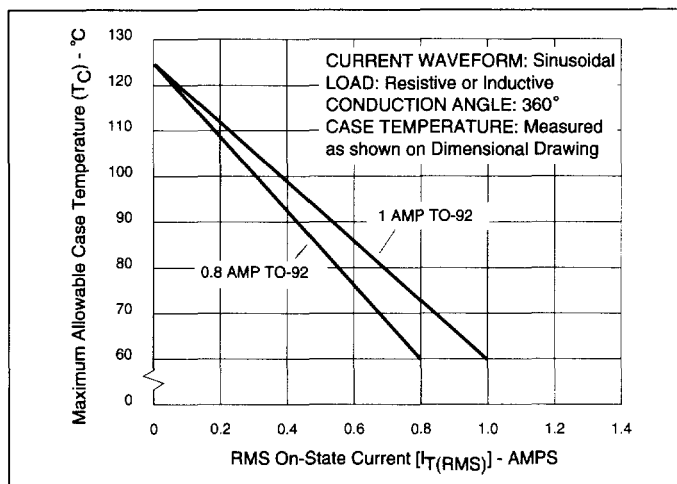
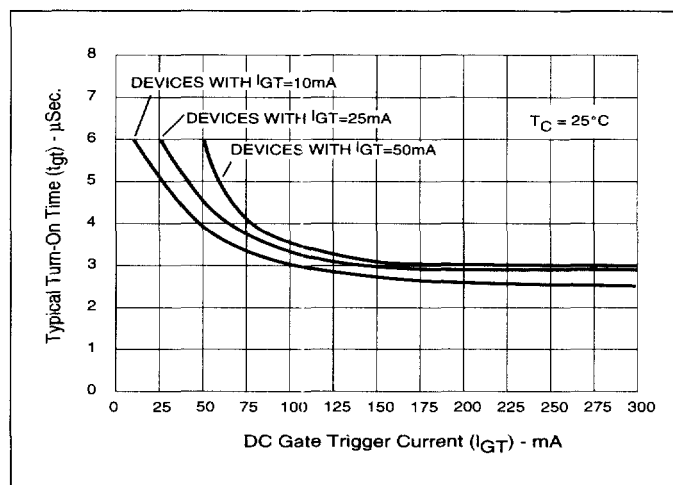

Figure 2.1 Maximum Allowable Case Temperature vs On-State Current (0.8 and 1.0 Amp)
Figure 2.15 Turn-On Time vs Gate Trigger Current (Typical)
- (1) For either polarity of MT2 with reference to MT1 terminal.
- (2) For either polarity of gate voltage (V_{GT}) with reference to MT1 terminal.
- (3) See Definition of Quadrants.
- (4) See Figures 2.1 through 2.7 for current rating at specific operating temperature.
- (10) See Figure 2.15 for t_{gt} vs I_{GT} .
- (11) See package outlines for lead form configurations. When ordering special lead forming, add type number as suffix to part number.
- (12) Initial on-state current = 200mA(DC) for 1-10 amp devices, 400 mA(DC) for 15 amp to 25 amp devices.
- (13) See Figures 2.1 through 2.6 for maximum allowable case temperature at maximum rated current.
- (14) Pulse width $\leq 10\mu s$.
- (15) $R_L = 60\Omega$ for 0.8-10 amp triacs; $R_L = 30\Omega$ for 15-25 amp triacs.
- (16) $T_C = T_J$ for test conditions in off-state.
- (17) $I_{GT} = 500$ mA for 25 amp devices.
- (18) Quadrants I, II, and III only.